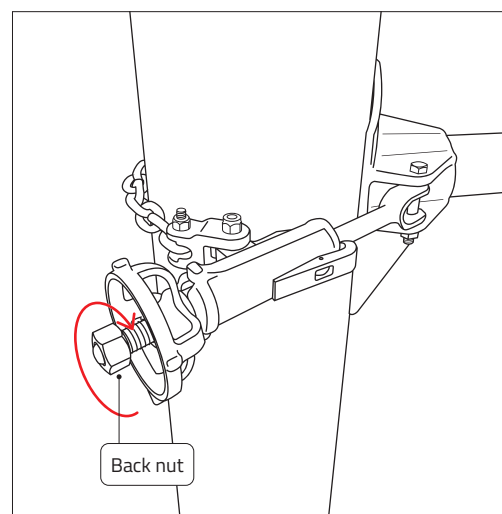

Fig. 3
6. Tighten the 'Chain Binder Wheel' by rotating it clockwise until snug. Shake the Fiberglass Extension Arm assembly to ensure that it is properly seated on the pole. Tighten the 'Chain Binder Wheel' until tight. (Fig. 3)